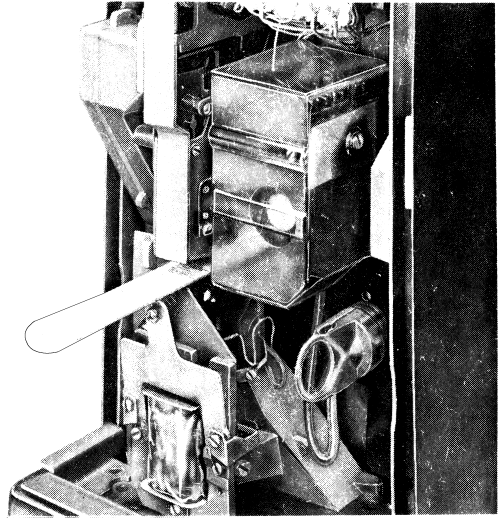

Fig. 2—KS-14993, List 3 Tool—In Position for Collect Test
- KS-14995, L3 tool—Placed between coin chute and hopper during Collect test to prevent collection of coins (Fig. 2)